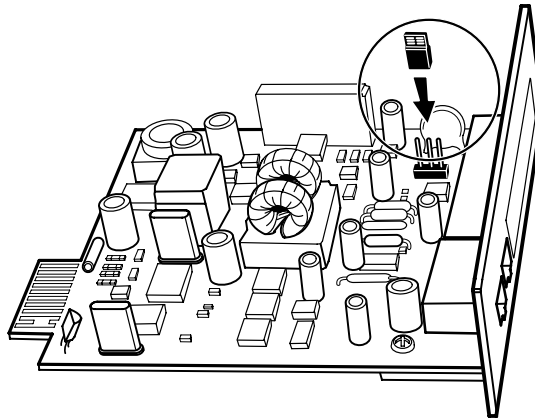

Figure 37. Setting the CAN Bridge Card Jumper J7 (Side View)
6. Set the jumper pins on the Powerware Hot Sync CAN Bridge Card as shown in Figure 37: